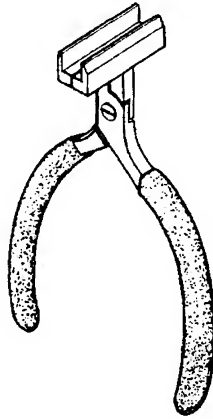

Figure 3-13 — IC Insertion-Extraction Pliers
See Figures 3-13 and 3-14 for equipment and indexing information.
- ☐ Step 1: Use IC insertion-extraction pliers positioned around the outside of the IC. Figure 3-13 shows an example of this type of pliers.